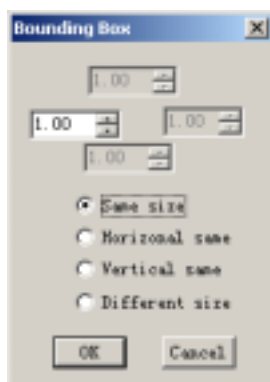

Fig. 4-28
3. The Bounding Box dialog is displayed. (Fig. 4-28)